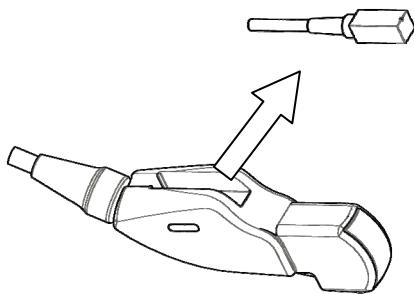

Fig.10 How to release the Magnetic sensor from the groove of the probe
- b) Release the Magnetic sensor from the groove of the probe as shown in Fig.10.